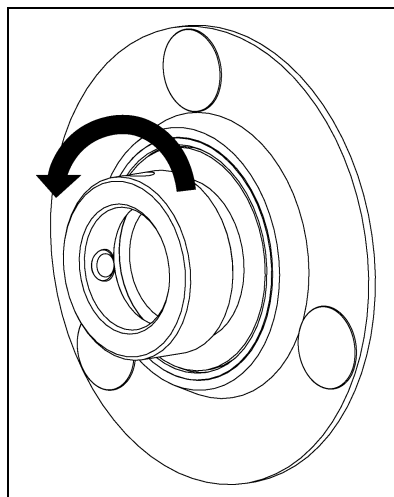

Figure 4Z
Step 2: Loosen eccentric lock collars. (See Figure 4Z.)